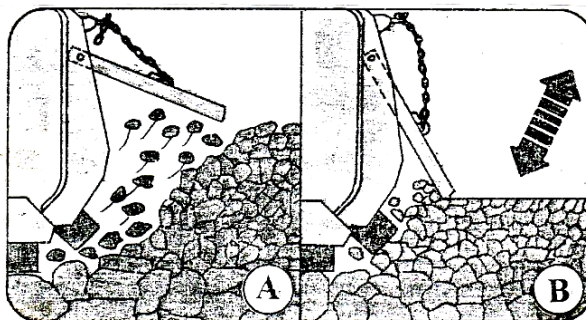

Figure 16. Different adjustments of the coupler achieve different levels of soil break-up.
- a) The higher the device is raised (see Fig. 16 – A), the coarser the soil particles are. On argilliferous earths, this position of the device prevents the soil from adhering to and around the rotor, and on the inside of the coupler.
- b) The lower the device is positioned (see Fig. 16 – B), the finer the soil particles are, due to the fact that the soil picked up with the cutters is colliding with more force against the inside of the coupler.
2. When the coupler on the mower is fully lowered, very fine soil particles are produced, making the soil prepared this way especially suitable for sowing fine farm seeds. This position is achieved by hanging the device from the support on the rear chain link. This device position enables levelling of the cultivated area at the same time (see Fig. 16 – A and B).